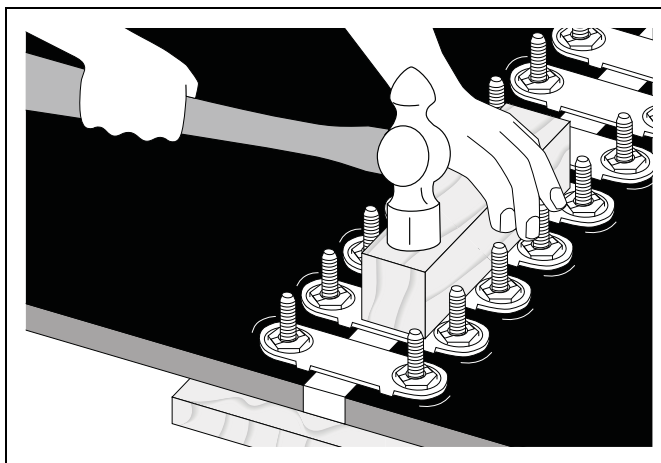

Figure 6Q
11. Hammer plates in belt with wood block. Retighten nuts. *(See Figure 6Q.)*